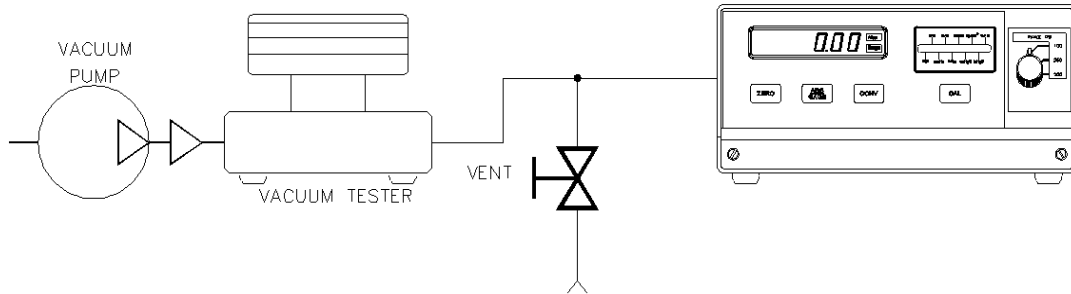

Figure 3-6. Vacuum Pump Setup
1. Connect Vacuum Test Standard to UPS3000/UPS3210 Input Port similar to Figure 3-6. A vacuum pump will need to be connected such that the Vacuum Test Standard controls the output coming from the vacuum pump going into the *INPUT PRESSURE* port (16) of the UPS3000/UPS3210.
3. Using the **RANGE SELECT** switch (6), select the lowest pressure range on the UPS3000/UPS3210.